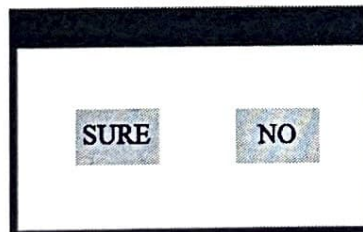

Figure 5 Dialog of confirm
- When the parameter is a key item, chick corresponding item, a dialog shown in Figure 5 will been popup ask for the confirm. Chick 'sure' to confirm.